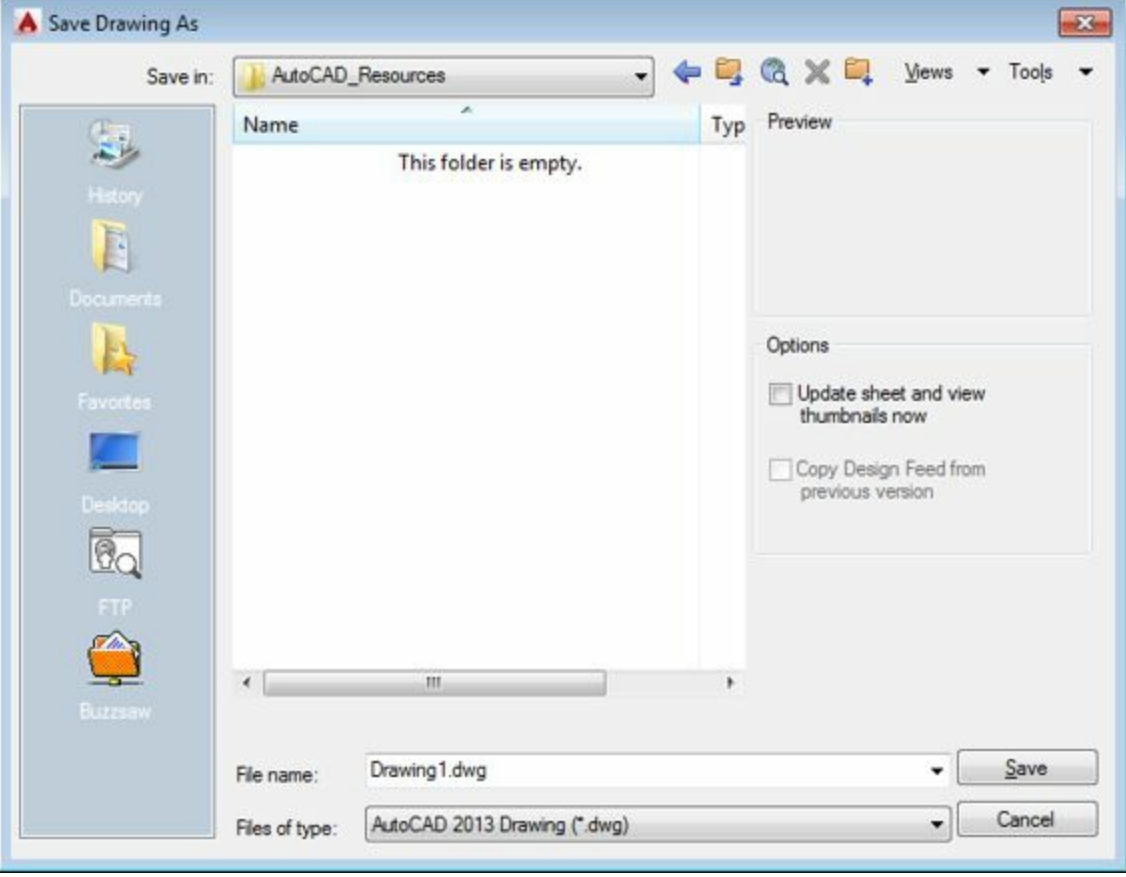

Figure-29. Save Drawing As dialog box
- Click on the **Save** option from the **Application Menu**. The Save Drawing As dialog box will be displayed as shown in Figure-29.